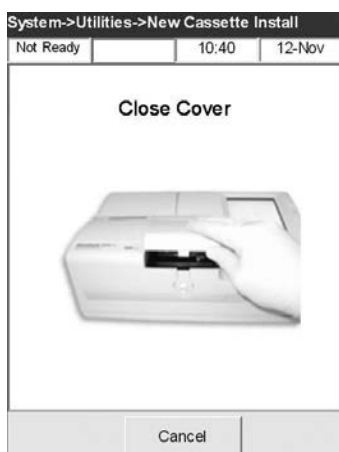

Fig. 6-23 Close Cover
15. Close the SMC cover by pressing it down firmly (Fig. 6-23).